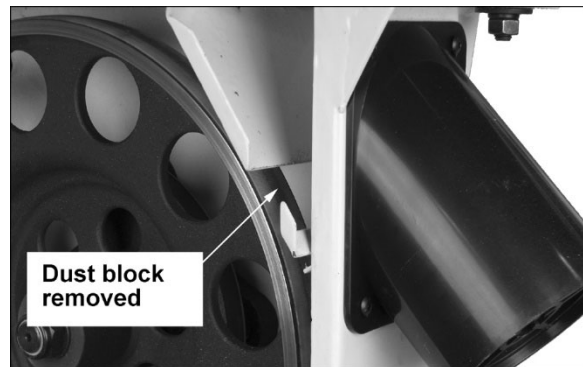

Figure 5-6
6. Remove dust block (C, Figure 5-6).